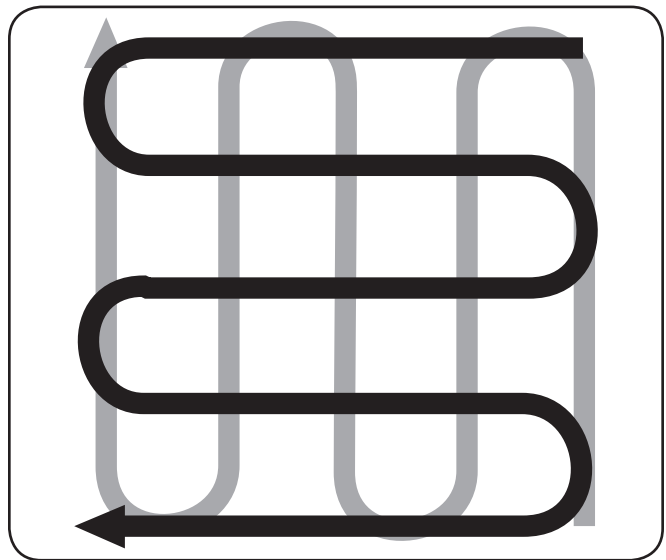

**Figure 5-5**
- When finished in one direction, make a second pass at a right angle, as shown in Figure 5-5. Overlap each pass for the best results (in very hard ground, it may take three or four passes to thoroughly pulverize the soil.)